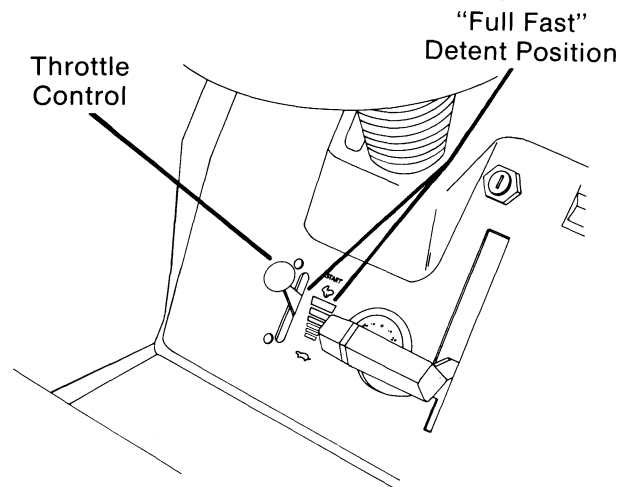

FIG. 7
- a. Throttle Cable - Move throttle control lever up to the "FULL FAST" position. (Fig. 7) Attach end of throttle cable to top
- a. Throttle Cable - Move throttle control lever up to the "FULL FAST" position. (Fig. 7) Push throttle cable thru hole in screen and baffle plate and attach end of throttle cable to end hole on speed control lever (under air cleaner on right side). Position cable under cable clamp and move throttle cable towards the rear until speed control lever just touches tang. (Fig. 8) Tighten cable clamp.